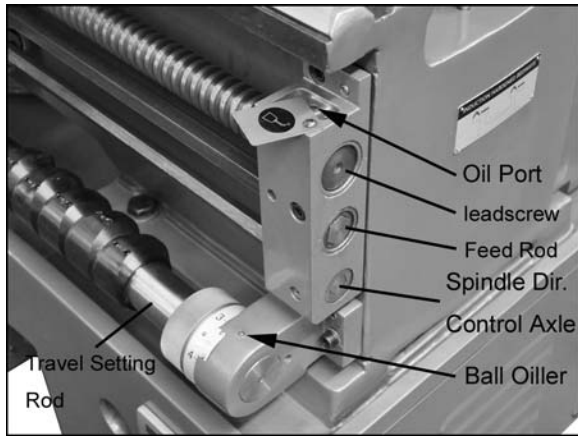

Figure 14 – Lubrication points
13. **Leadscrew, Feed Rod, and Direction Control Axle** – Slide the cover on the right side bracket (Figure 14) to expose the oil port and fill with SAE 20W oil daily. The oil is distributed to all three elements by a woolen line.